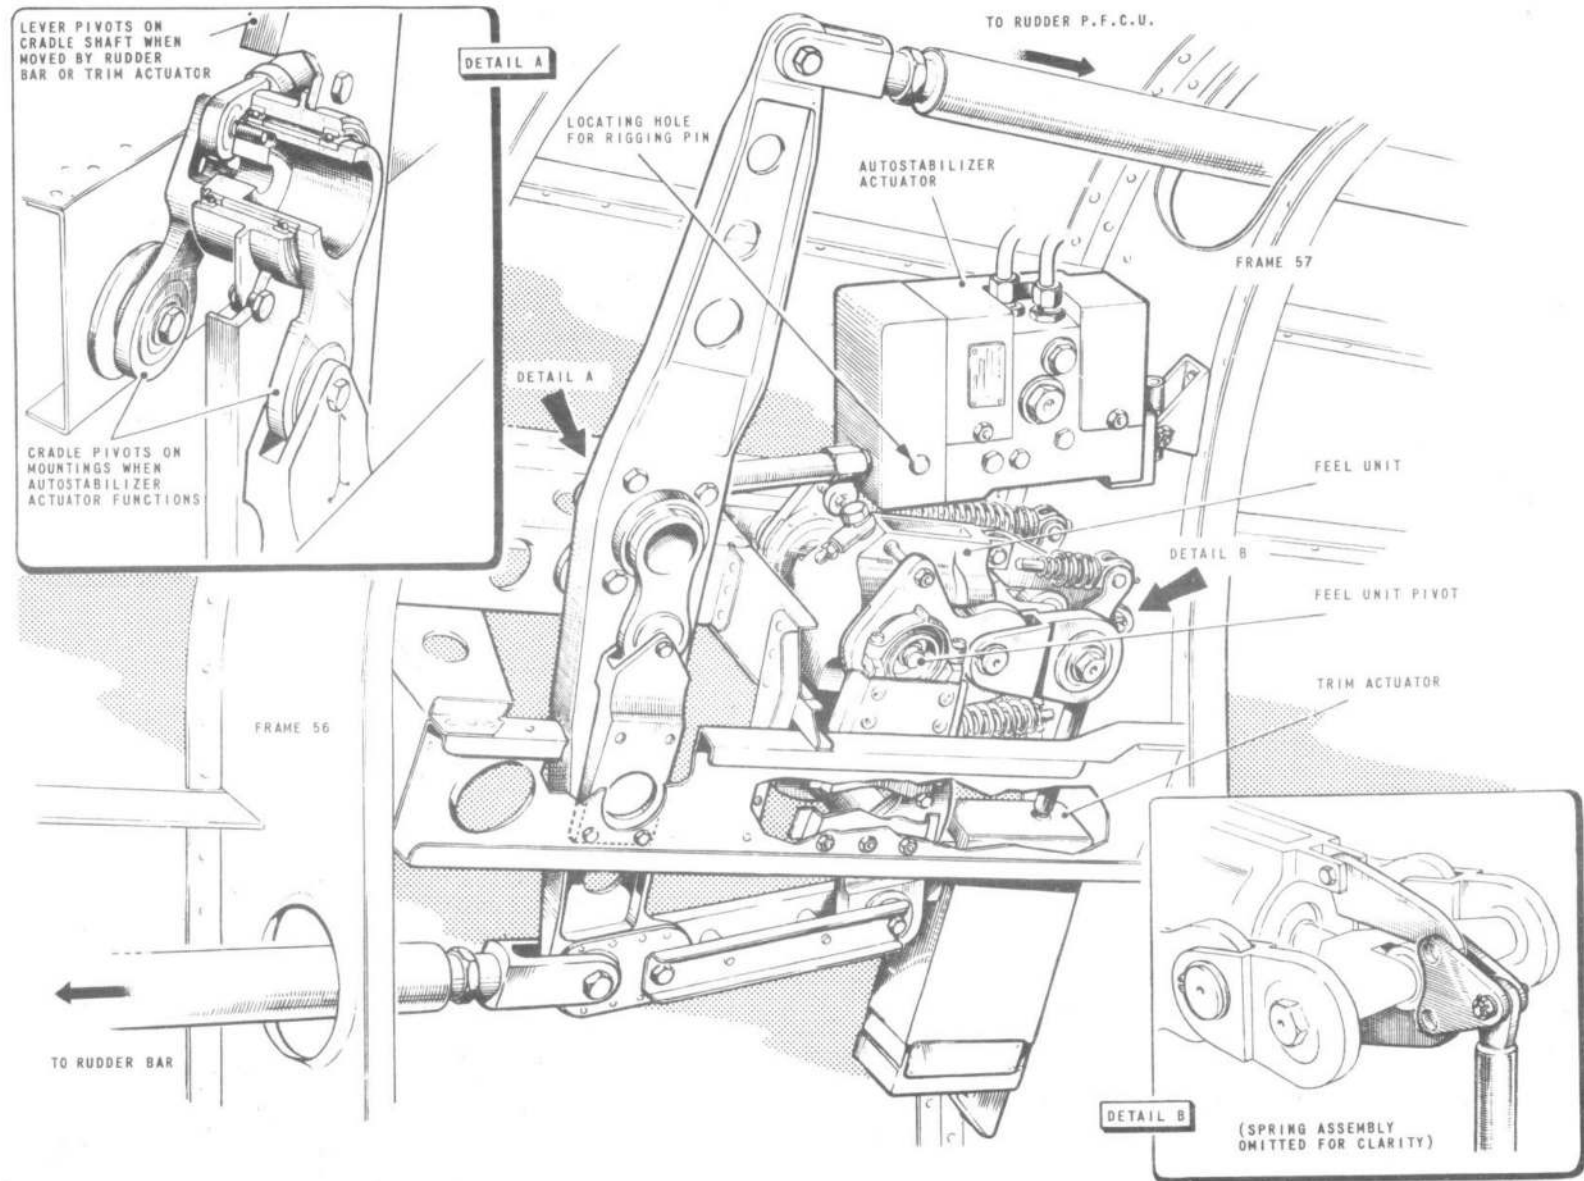

FIG. 3. FEEL, TRIM, AND AUTOSTABILIZER-ACTUATOR INTERCONNECTION
4. A sense of feel is primarily produced by a hydraulic feel unit linked into the control run (*fig. 3*) to impose loading on the rudder bar. The feel unit is subjected to metered hydraulic pressure from the feel simulator control unit (*Chap. 6*). As this pressure varies relative to the speed and altitude of the aircraft, so the feel unit imposes a varying feel sense on the rudder bar.
the feel unit (*fig.3*) which acts as a cranked lever. The interconnection of the feel unit with the vertical lever, forward of frame 57, causes the control run to the rudder bar, and to the rudder control unit, to be moved.
#### Feel, trim, and autostabilizer-actuator interconnection (*fig.3*)